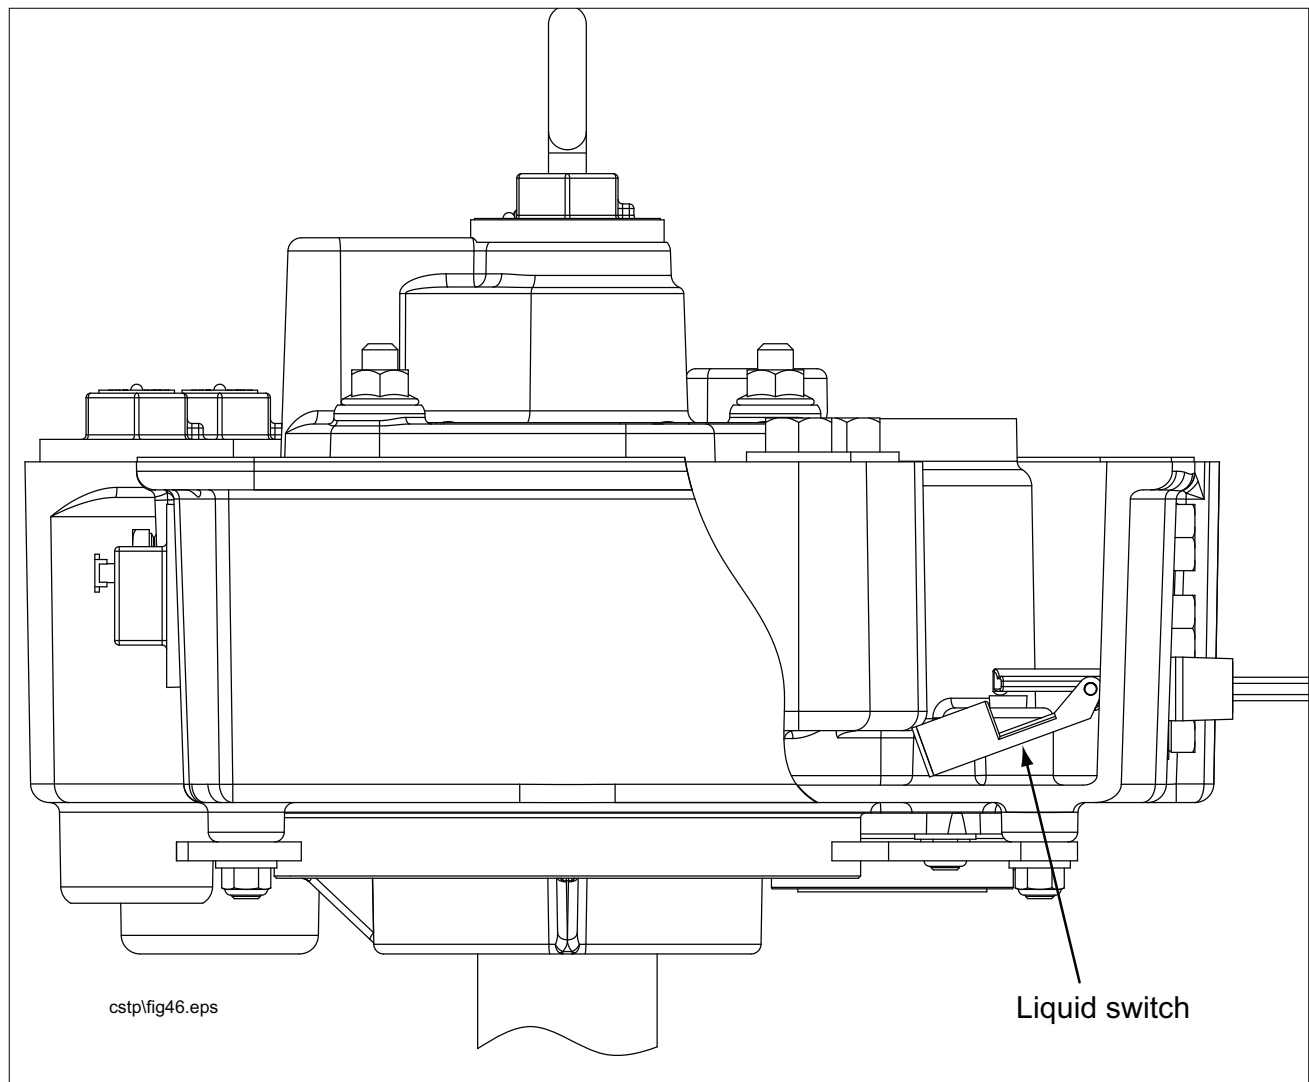

Figure 50. Locating Liquid Switch
8. Remove the liquid switch by unscrewing it (see Figure 50).
10. Screw the liquid switch into the port and torque it to 65 in-lbs. (7 N•m) and then turn the switch until the N.O. (normally open) arrow is in the upward position (the float should hang down) (see Figure 50).